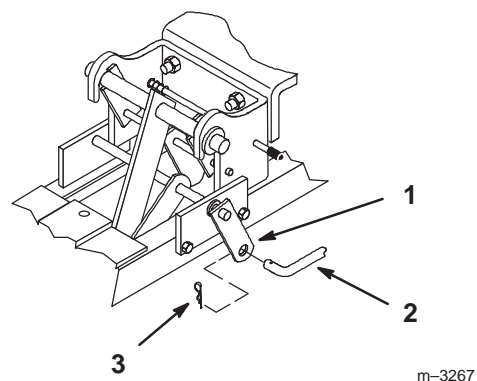

Figure 10
11. Place the lift rod into the lift arm and secure it with a large hairpin cotter (Fig. 10).